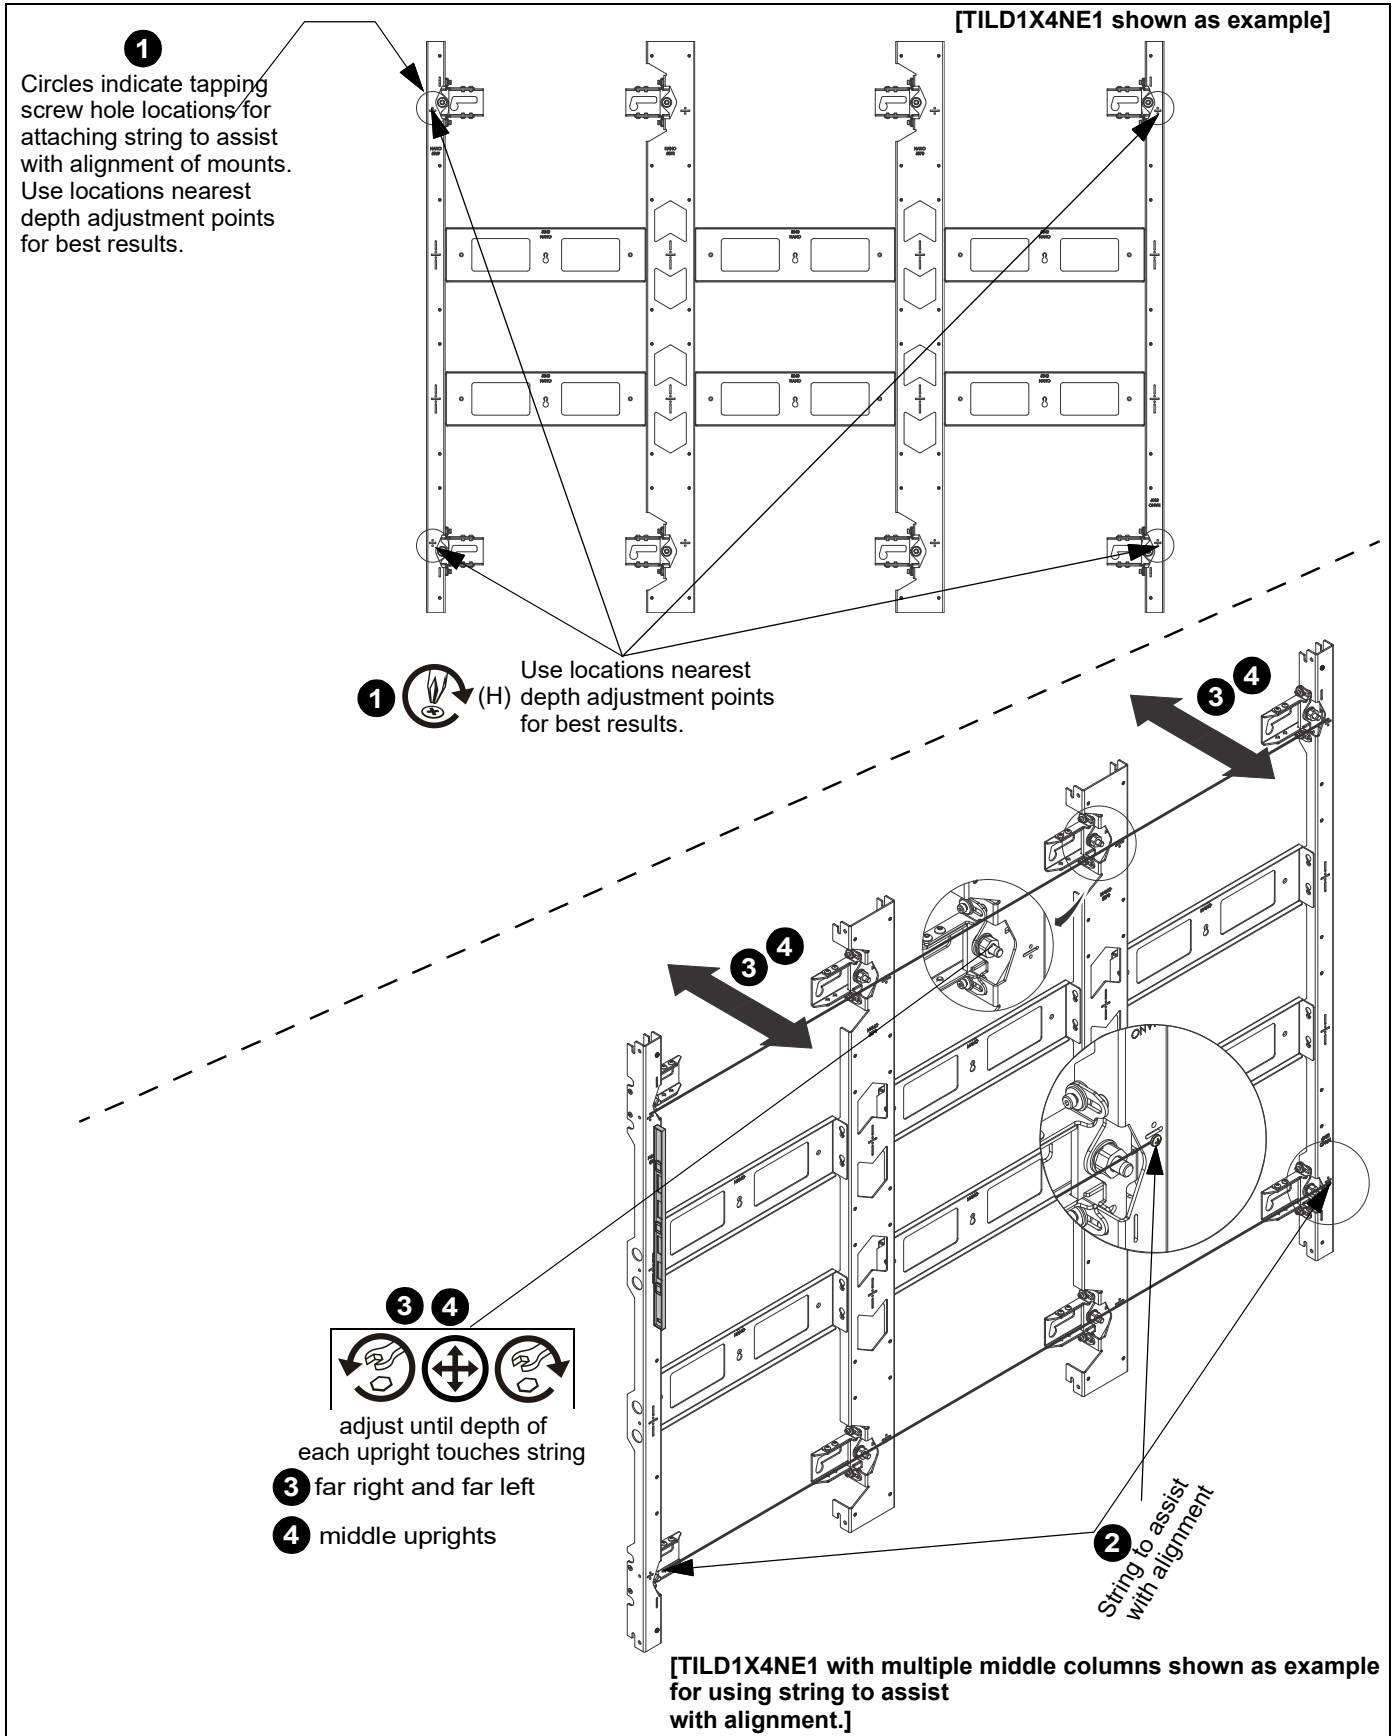

Figure 22
12. Continue the installation process until all wall mounts are attached. Use a magnetic level on front face of outside uprights to make sure they are plumb. Use a 3/4" or 19mm socket wrench to adjust hex nuts as needed. (See Figure 22)
- Install #10 x 1/2" self-tapping screws (H) on the mount in the far left and far right uprights to assist in plumb leveling. (See Figure 22)
- Run a string between the self-tapping screws installed in **Step 13** to assist with alignment across long sections of mounts. (See Figure 22)
- Turn hex nuts in either direction on far left and far right uprights to assist in plumb leveling. (See Figure 22)
- Turn hex nuts in either direction on each middle upright to adjust depth to match the string line as needed. (See Figure 22)